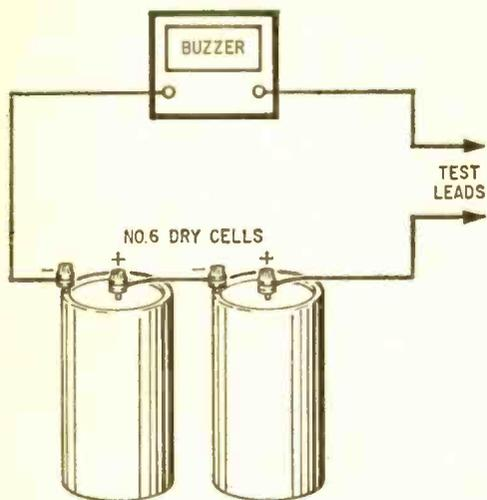

Fig. 1. The continuity checker shown above is an inexpensive testing device for checking wire shorts and opens in long hidden cables.
**GO-NO-GO Testers.** One of the simplest go-no-go testers is a buzzer test set consisting of two No. 6 dry cells and an ordinary house buzzer, connected as shown in Figure 1. This is a continuity tester. When the test leads are applied to a circuit, the buzzer sounds if the circuit is closed and does not sound if the circuit is open. Its use is limited to very low resistance devices and circuits since insufficient current will flow to make the buzzer sound if the resistance of the circuit being tested is too high. It's very handy for testing cables and tracing wires.